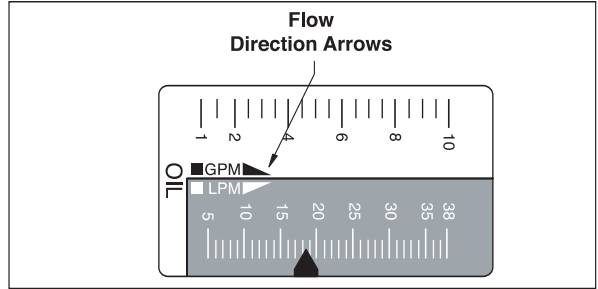

Figure 3. Flow Direction Arrows
Do - Ensure the fluid is traveling in the direction of the flow arrow (Figure 3 on page 4).
1. See Figure 3. Mount the meter so fluid is traveling in the direction of the flow arrow.